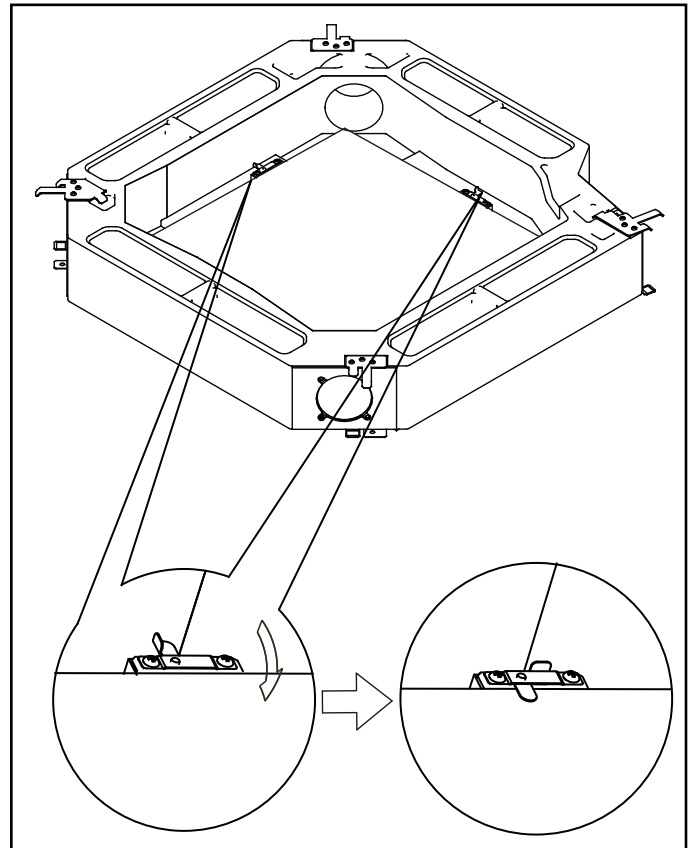

Figure 8. High Efficiency Filter Clips
12. Use clips to secure high efficiency filter. See Figure 8.